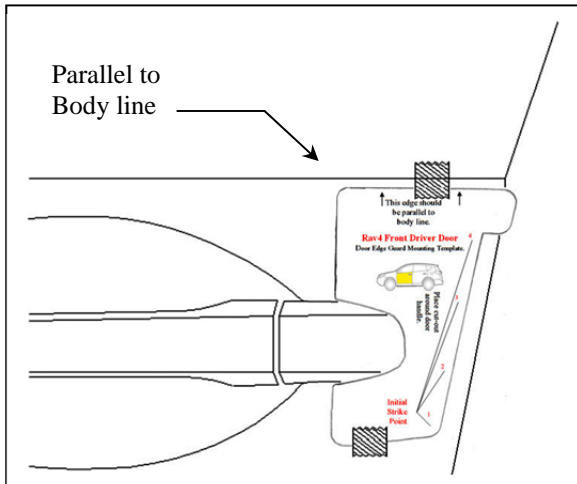

Fig. 2-3
- (1) Select the front door template and fit the notch around the door handle. Adjust as needed to ensure it is parallel to the body line directly above the template. If needed, tape it into place using painter’s masking tape (Fig 2-3).